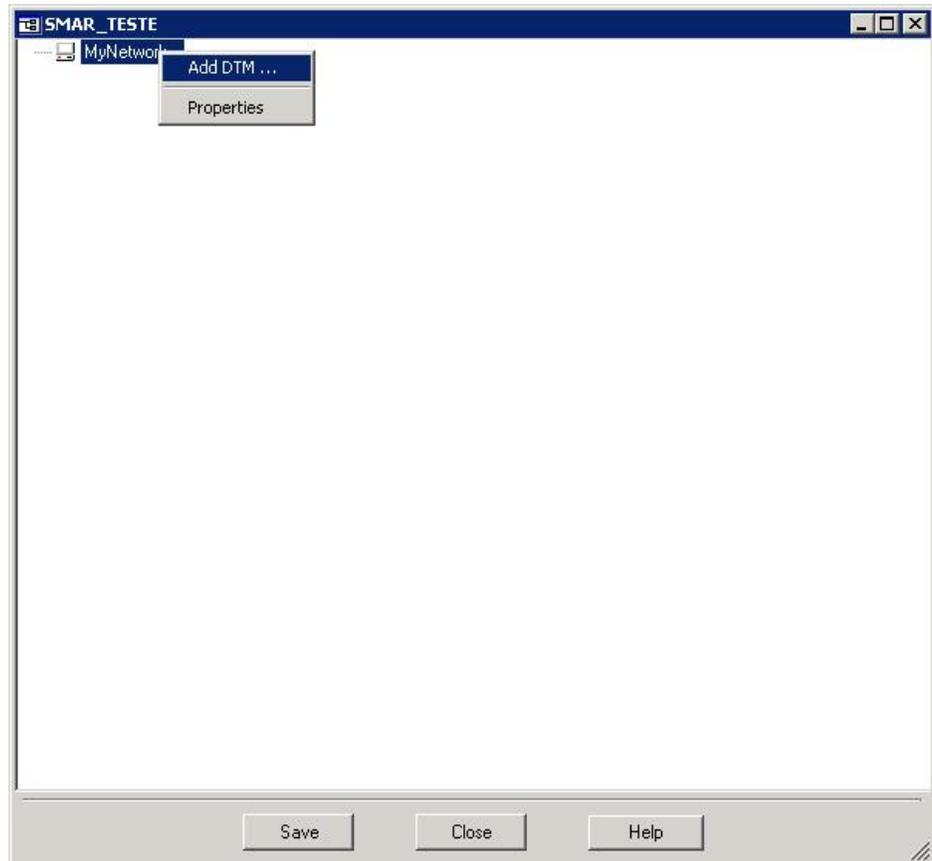
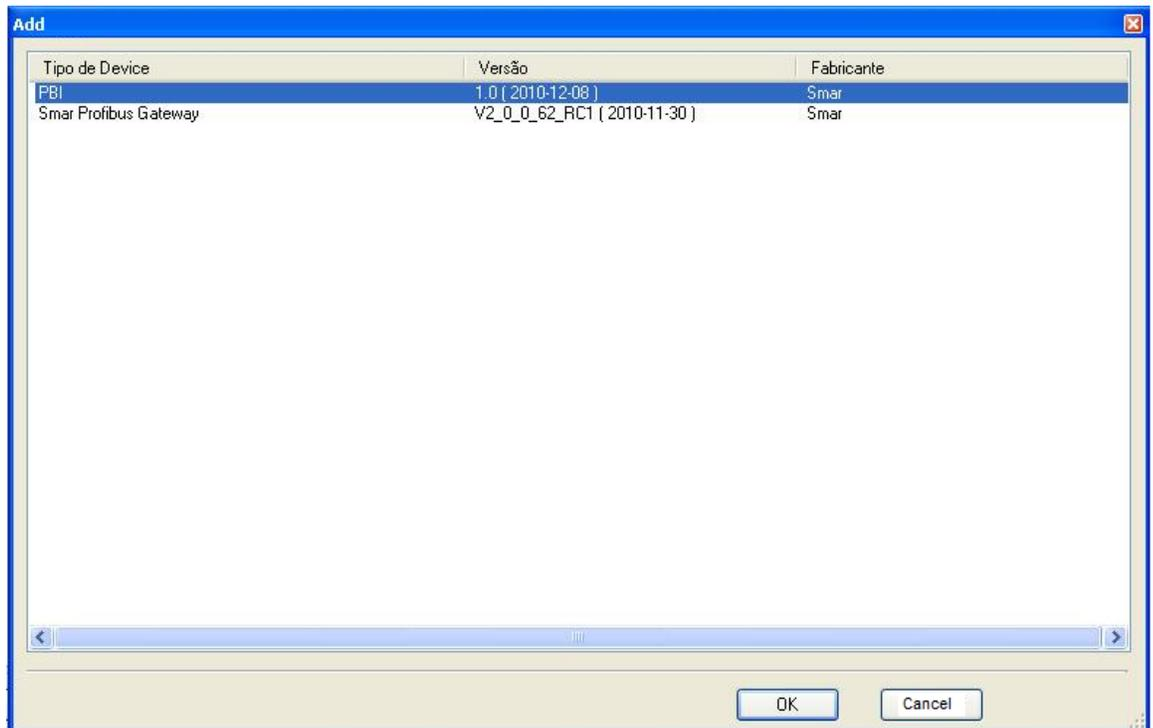

Figure 2.5 – Configuration of AssetView STANDALONE software
Figure 2.6 – Configuration of AssetView STANDALONE software
- 4) Right click in the "My network" icon, choose "Add DTM" and insert the PBI CommDTM. It will work as a communication gateway between AssetView and the device. Refer to figure 2.5 and figure 2.6 for detailed procedure.